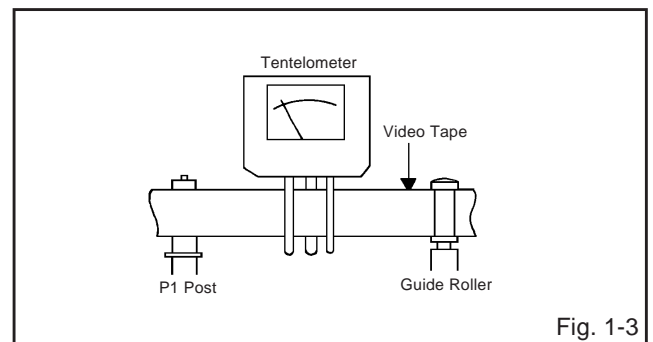

Fig. 1-3
2. Install the tentelometer as shown in **Fig. 1-3**. Confirm the value is within $20 \sim 27\text{gf} \cdot \text{cm}$ at this time.